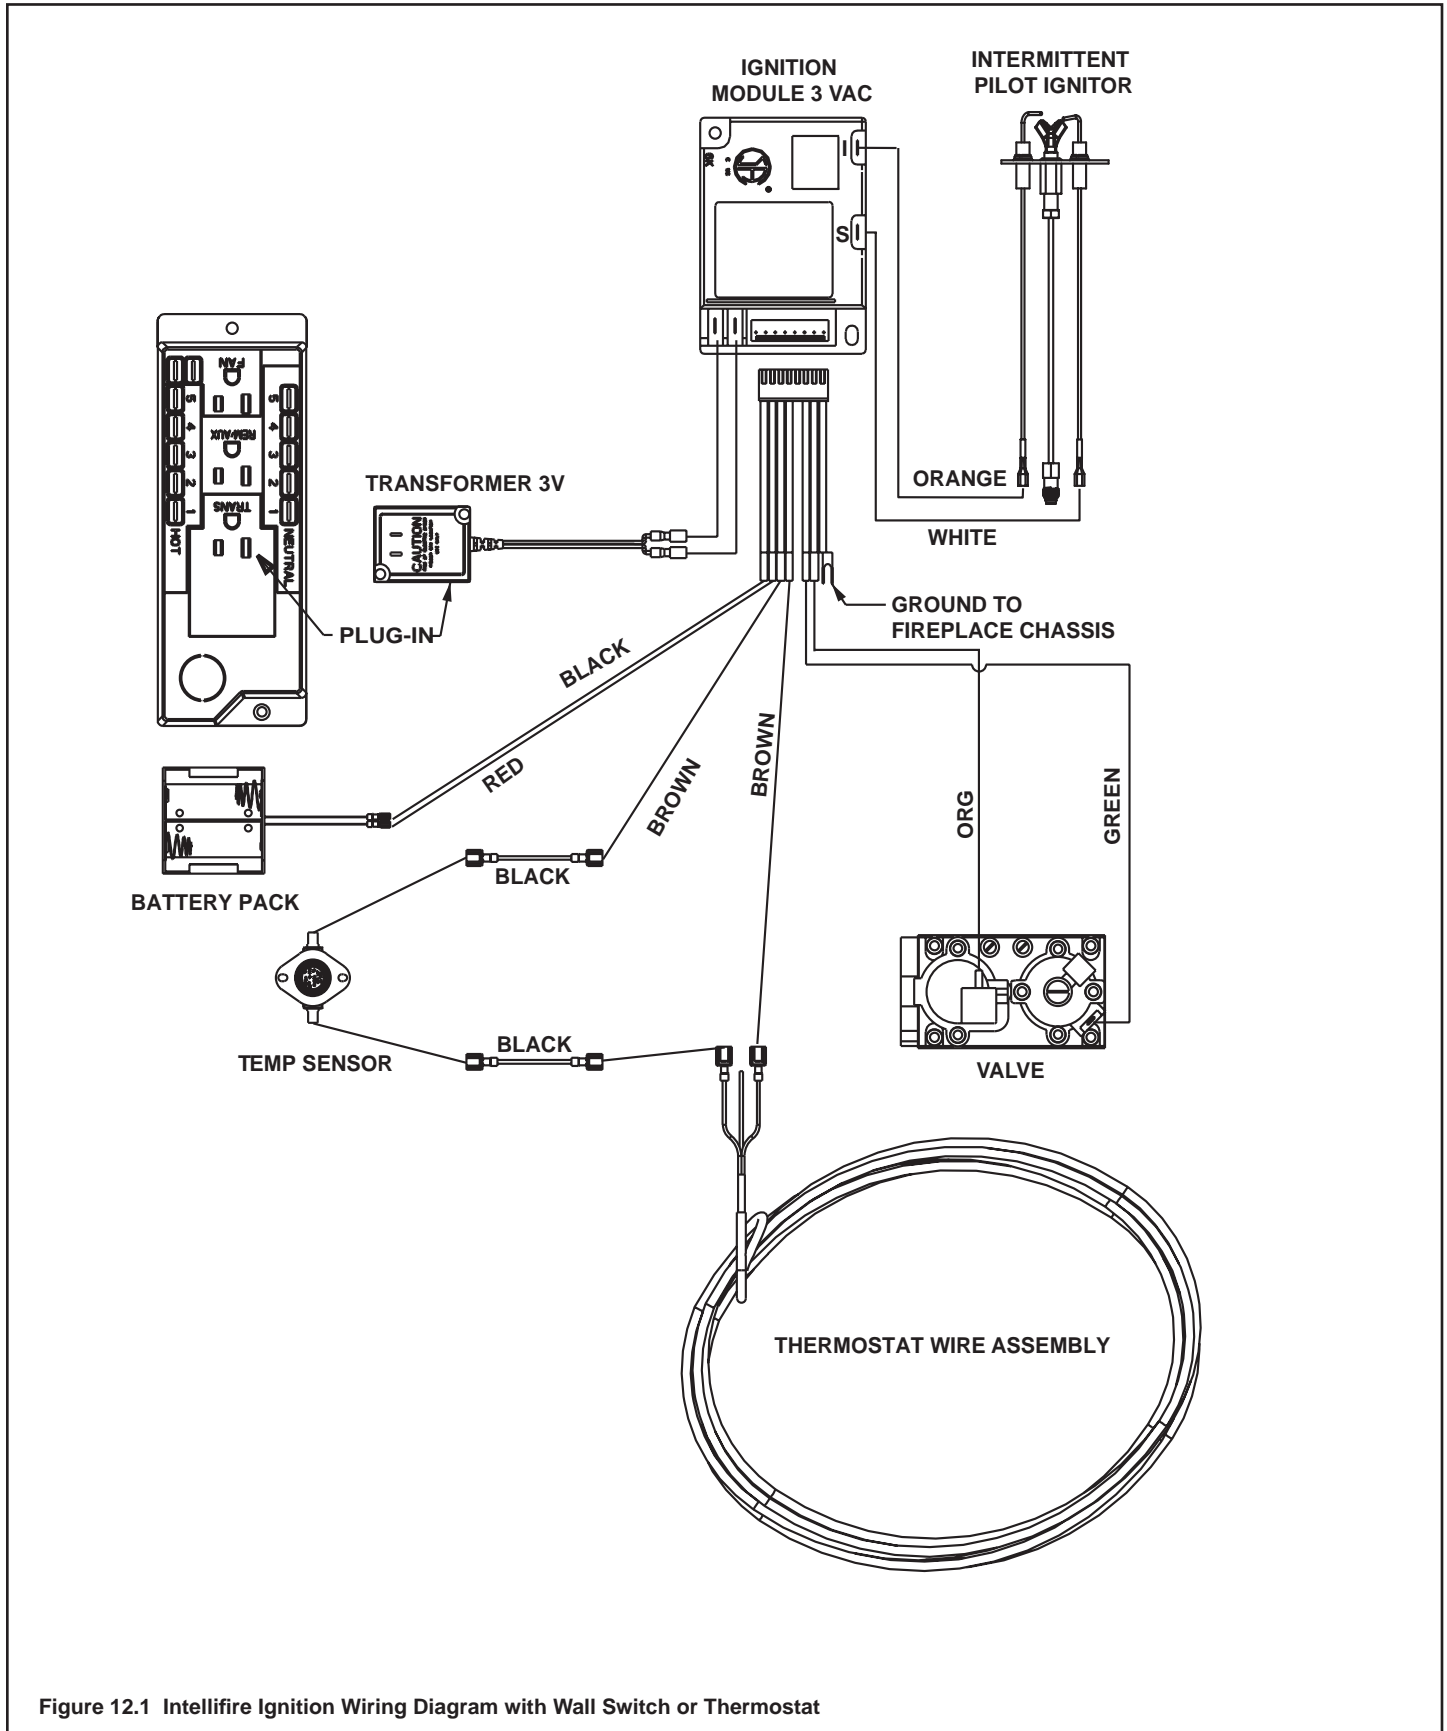

Figure 12.1 Intellifire Ignition Wiring Diagram with Wall Switch or Thermostat
- Refer to Figure 12.1, Intellifire Pilot Ignition (IPI) Wiring Diagram.